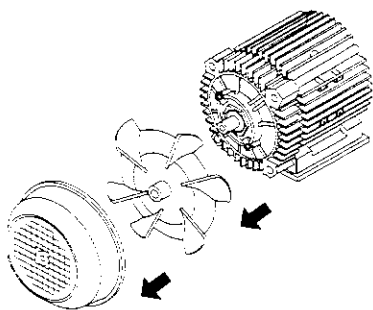

Figure 5 - Removing Shroud and Fan
- a. Remove the shroud and the fan from the rear of the motor assembly (See Figure 5).